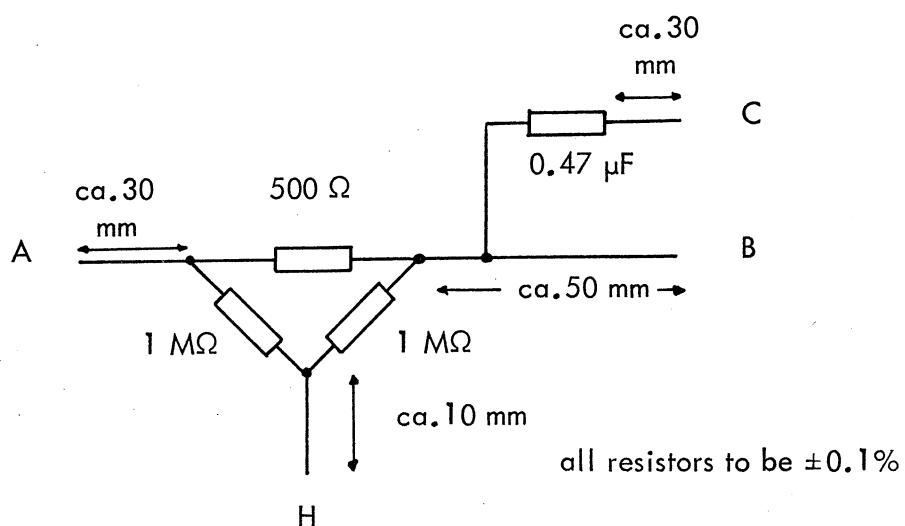

Fig.G1.
- 73) Connect the DC DVM between the points A and B, shown in Fig.G1.
- 96) Solder the assembly shown in Fig.G1, as follows: Point A to tag 5 of J700 and point B to tag 8 of J700. Point C on the assembly is not used in this check.